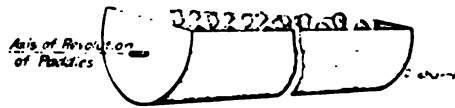

Fig. 12—Trough Concrete Mixer.
(12) An open trough or closed cylinder fitted with a shaft on which are paddles or blades, to mix the concrete and feed it along to the discharge end, as shown in Fig. 12.